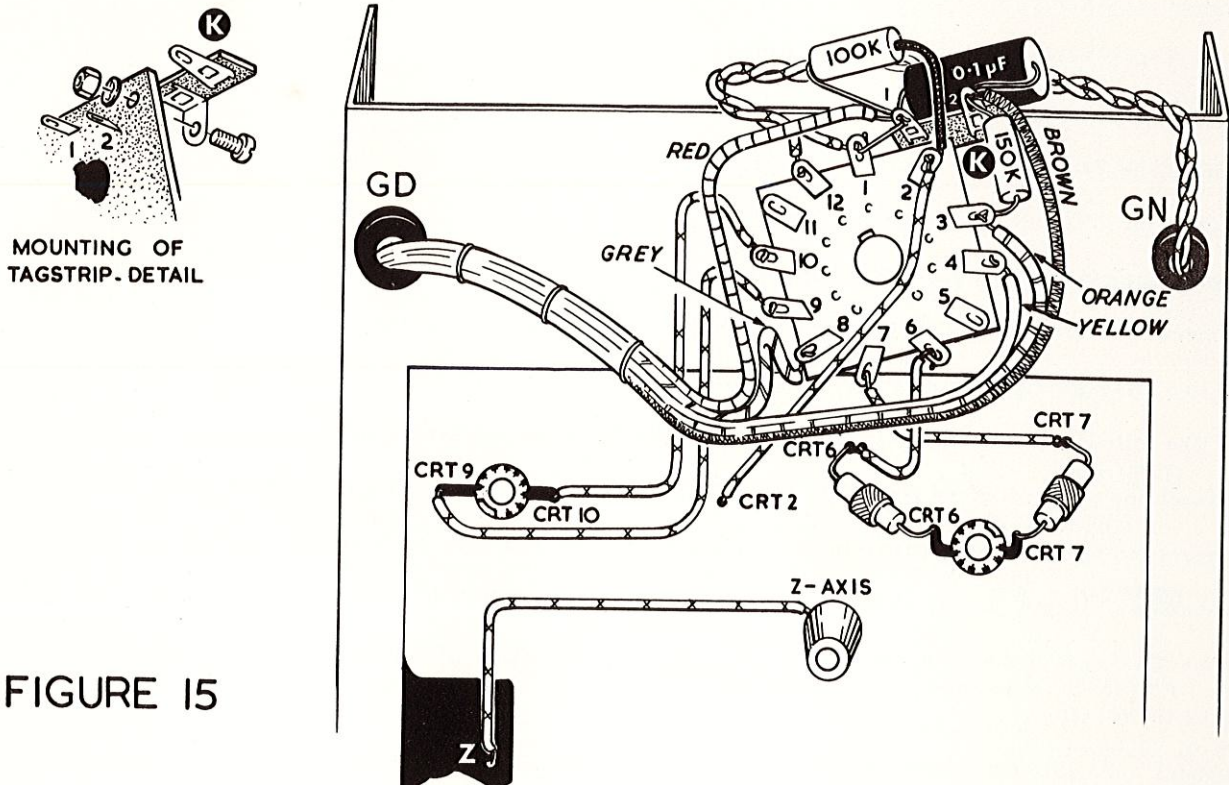

FIGURE 15
- () Position the tube with pin 1 in the vertical position as shown in Figure 15.
NOTE: The pins on the CRT are numbered in a clockwise direction starting from the keyway. See Figure 15.
- () Using one 4BA x 3/8" binderhead screw, lockwasher and nut, mount the 2-way tagstrip K to the hole on the CRT base next to pin 2 as shown in the detail on Figure 15.
Refer to Figure 15 for the following steps:
- () Connect a 0.1 μ F 250V tubular capacitor from K tag 2 (NS) through K tag 1 (NS) to CRT tag 1 (NS).
- () Connect a 100 K Ω resistor (BROWN, BLACK, YELLOW) from K tag 1 (NS) to CRT tag 2 (NS). Use $\frac{3}{4}$ " of sleeving on one end as shown in Figure 15.
- () Using $\frac{1}{2}$ " of sleeving on each end, connect a 150 K Ω resistor (BROWN, GREEN, YELLOW) from K tag 2 (NS) to CRT tag 3 (NS).
- () Route the end of the cable assembly emerging from grommet GD as shown in Figure 15.